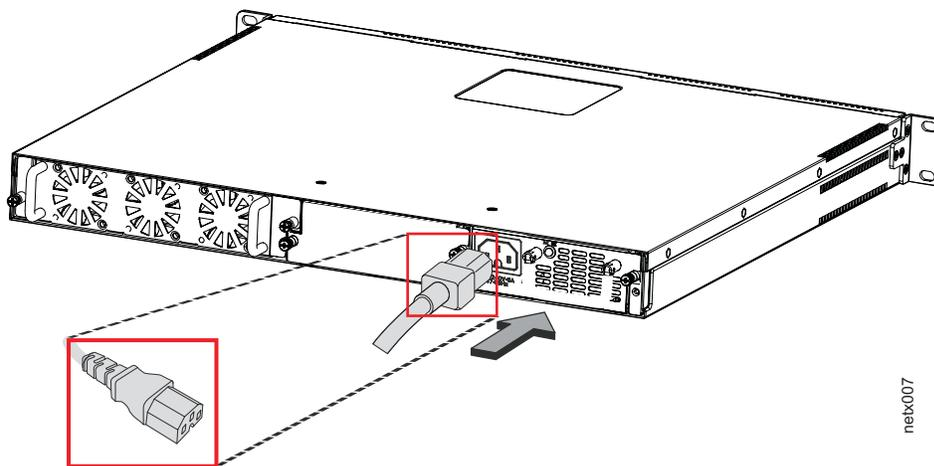

Figure 7. Attaching the AC power cord
3. Attach the AC power cord to the AC connector on the rear panel as shown in Figure 7.